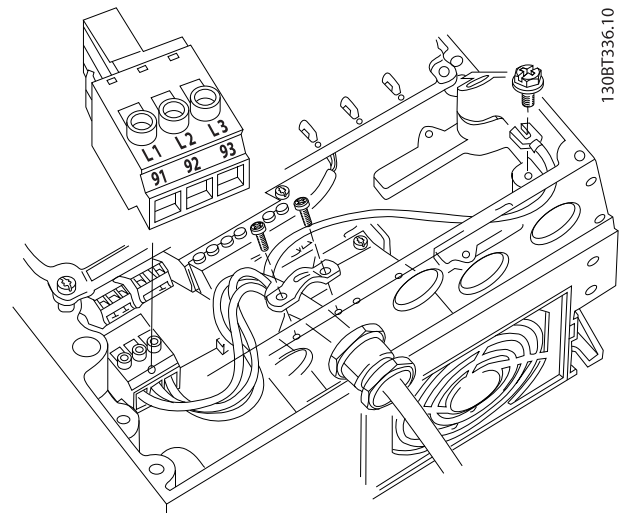

Figure 4.13 Connecting to AC Mains
1. Connect 3-phase AC input power wiring to terminals L1, L2, and L3 (see *Figure 4.13*).